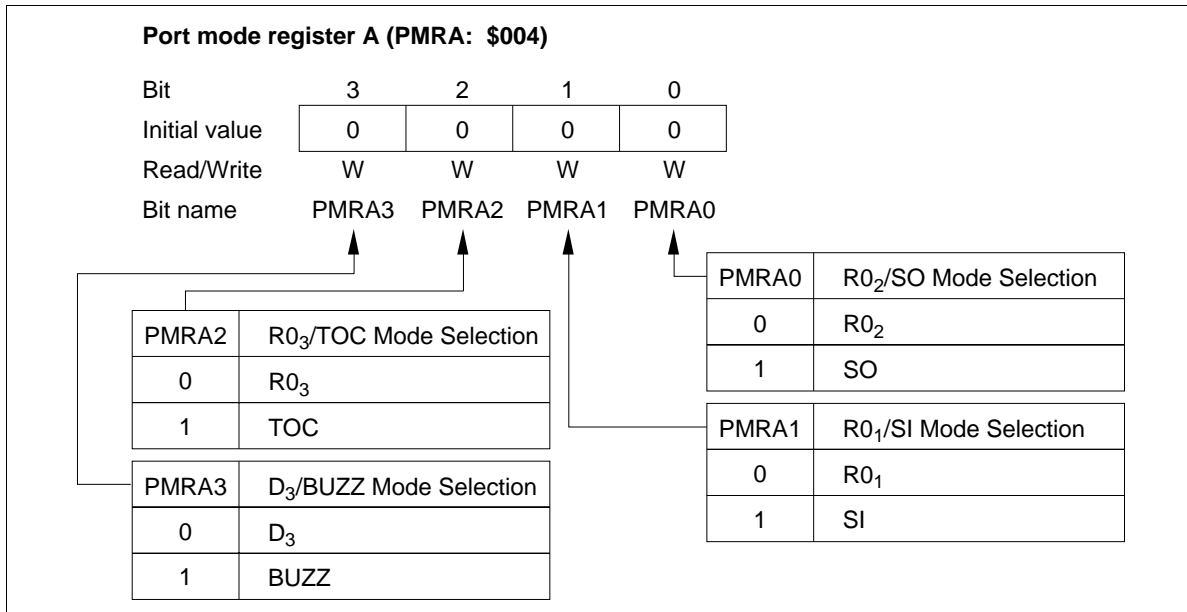

Figure 51 Port Mode Register A (PMRA)
- Port mode register A (PMRA: \$004): Write-only register that selects R0₃/TOC pin function as shown in figure 51. It is reset to \$0 by MCU reset.
Port Mode Register A (PMRA: \$004): Four-bit write-only register that selects D₃/BUZZ pin function as shown in figure 51. It is reset to \$0 by MCU reset.